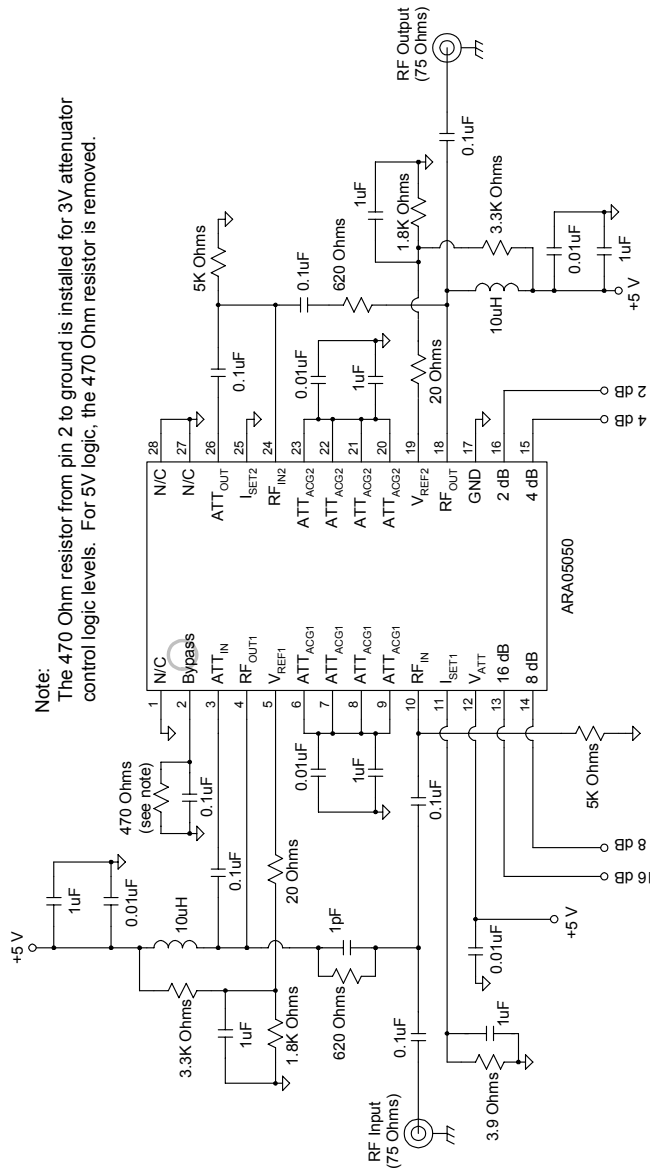

Figure 4: Test Circuit
(1) Specification applies when 470 Ohm resistor is connected from pin 2 to ground (see test circuit in Figure 4).
The I_{SET} pins (11 and 25) set the bias current for the amplification stages. Grounding these pins results in the maximum possible current. By placing a resistor from the pin to ground, the current can be reduced. The recommended bias conditions use the configuration shown in the test circuit schematic in Figure 4.